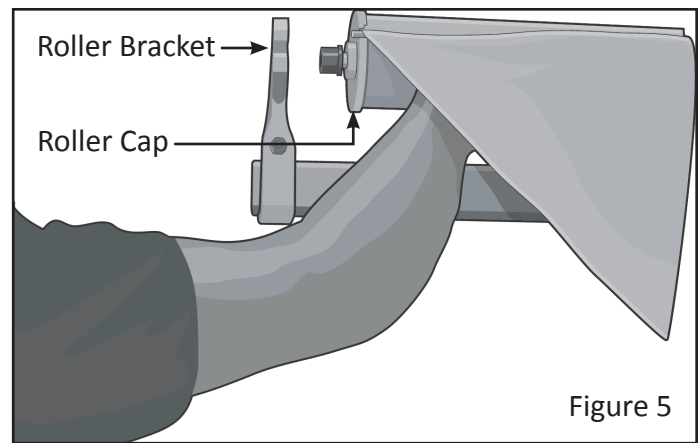

Figure 5
10. On the side opposite the Gear Assembly, have your helper place the Dark Gray Bushing over the Pin on the end of the Roller Cap and insert the Roller Cap and Bushing into the hole in the Roller Bracket. See Figure 5.
11. While your helper checks that there is no gap between the Roller Bracket and the Roller Cap in the Roller Bar (see Figure 5), tighten the Retaining Bolt on the Roller Bracket attached to the Gear with a 13mm or ½" wrench.